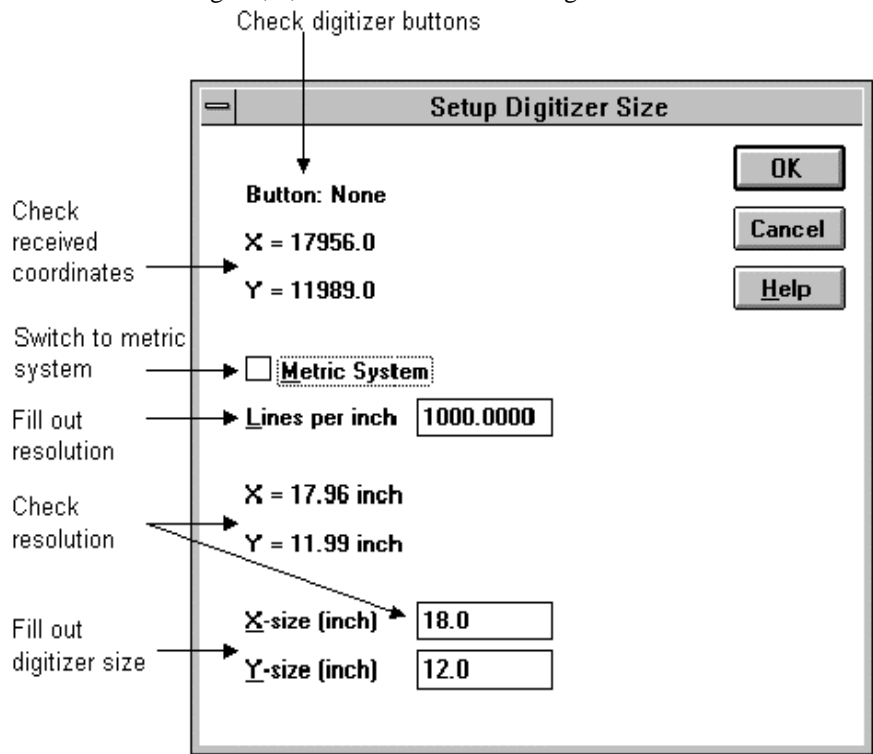

Figure 1: Setup digitizer size dialog
11. In the upper part of the Setup Digitizer Size dialog (see Figure 1): check if all buttons work, and check whether the X-values increase by moving the digitizer cursor to the right, and Y-values increase by moving the cursor up. If the communication is not correct, press **Cancel** to return to the previous dialog box and change until the communication is correct. When you have good communication, fill out the resolution (lines per inch or per mm) that the digitizer is using and the size of the digitizer. Remember to enter the same resolution, as you have configured for your digitizer (in step 3). You can check